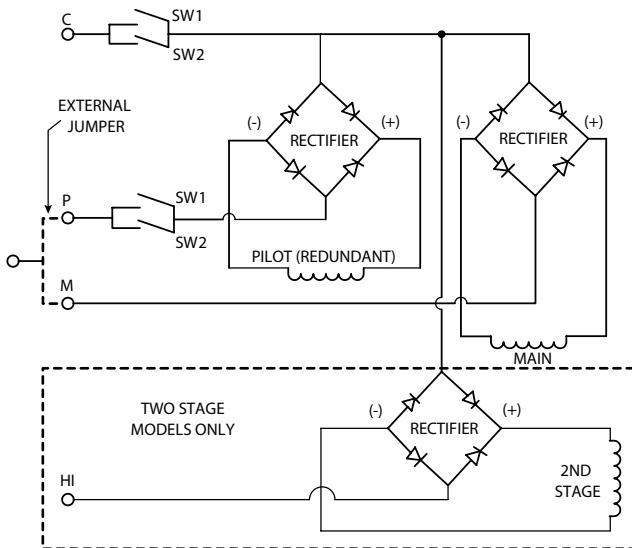

Figure 1. Gas valve internal wiring and terminal identification
These valves are shipped with an external wire jumper installed for non-piloted gas applications. For applications requiring piloted gas, such as intermittent pilot or spark-to-pilot systems, remove the external wire jumper from the main (M) and pilot (P) valve terminals (see figure 1).